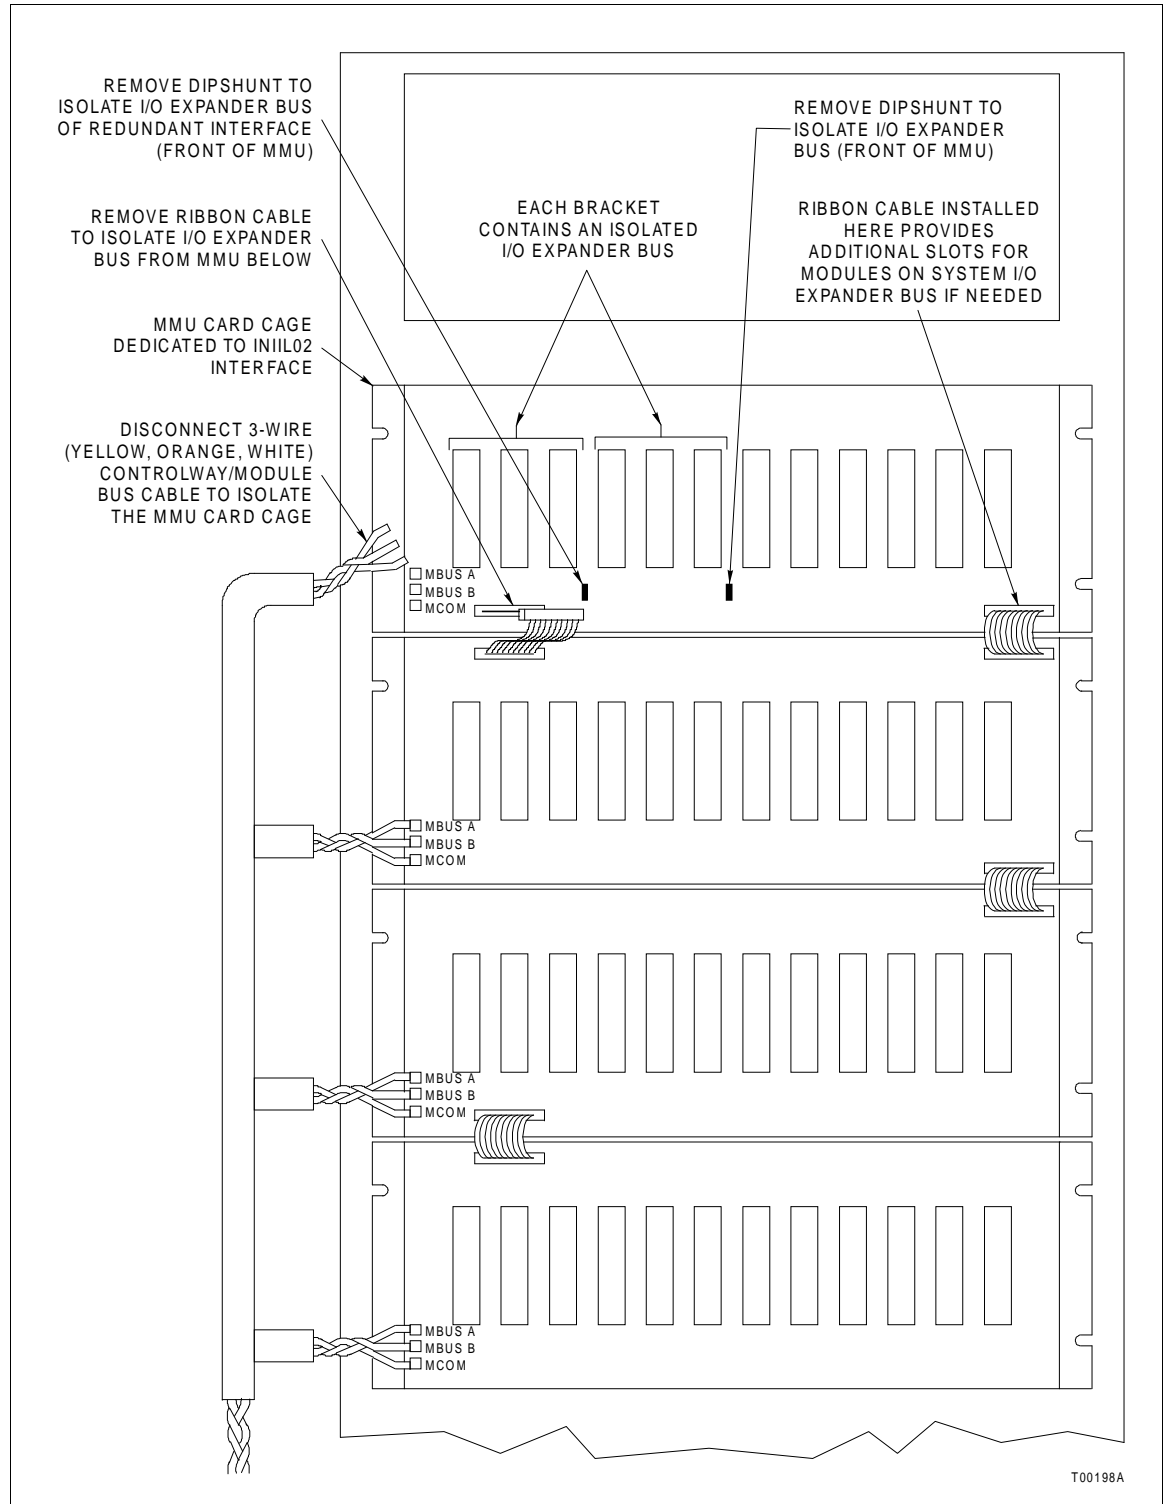

Figure 3-4. Example of How to Isolate a Module Mounting Unit
2. Disconnect the Controlway/module bus cable from the module mounting unit to be isolated for the interface. Figure 3-4 shows an example of how the Controlway is disconnected to isolate Controlway or module bus on that module mounting unit.
3. There is no set procedure for isolating the I/O expander bus because system architectures differ so widely from system to system. The example in Figure 3-4 shows one way to isolate the I/O expander bus. Using the methods (i.e., by removing a dipshunt or a ribbon cable) shown in Figure 3-4, isolate an I/O expander bus for each interface.